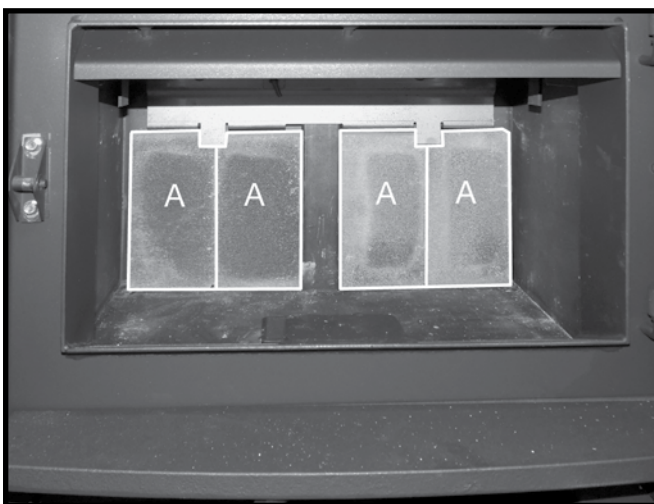

Figure 22: Remaining rear wall firebricks in place.
3. Repeat steps 1 & 2 for the placement of the other "A" firebricks on the rear wall (Figure 22).